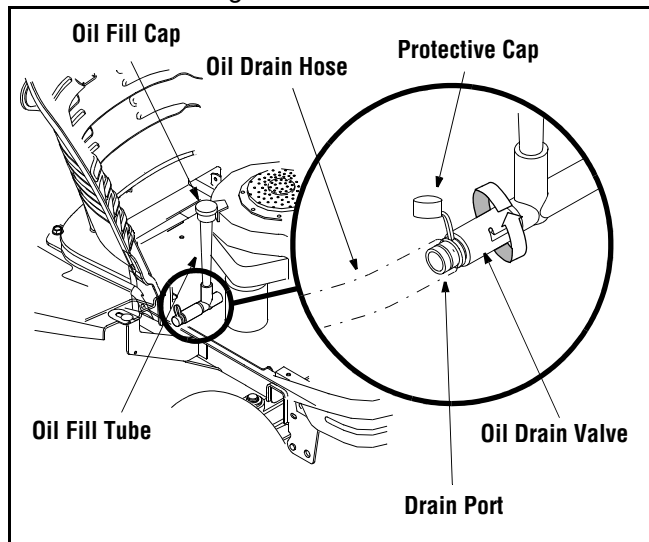

Figure 17
- Unscrew oil fill cap and remove dipstick from the oil fill tube. See Figure 17.
- Pop open the protective cap on the end of the oil drain valve to expose the drain port. See Figure 17.
- Push the oil drain valve in slightly, then rotate counterclockwise and pull outward to begin draining oil. See Figure 17.